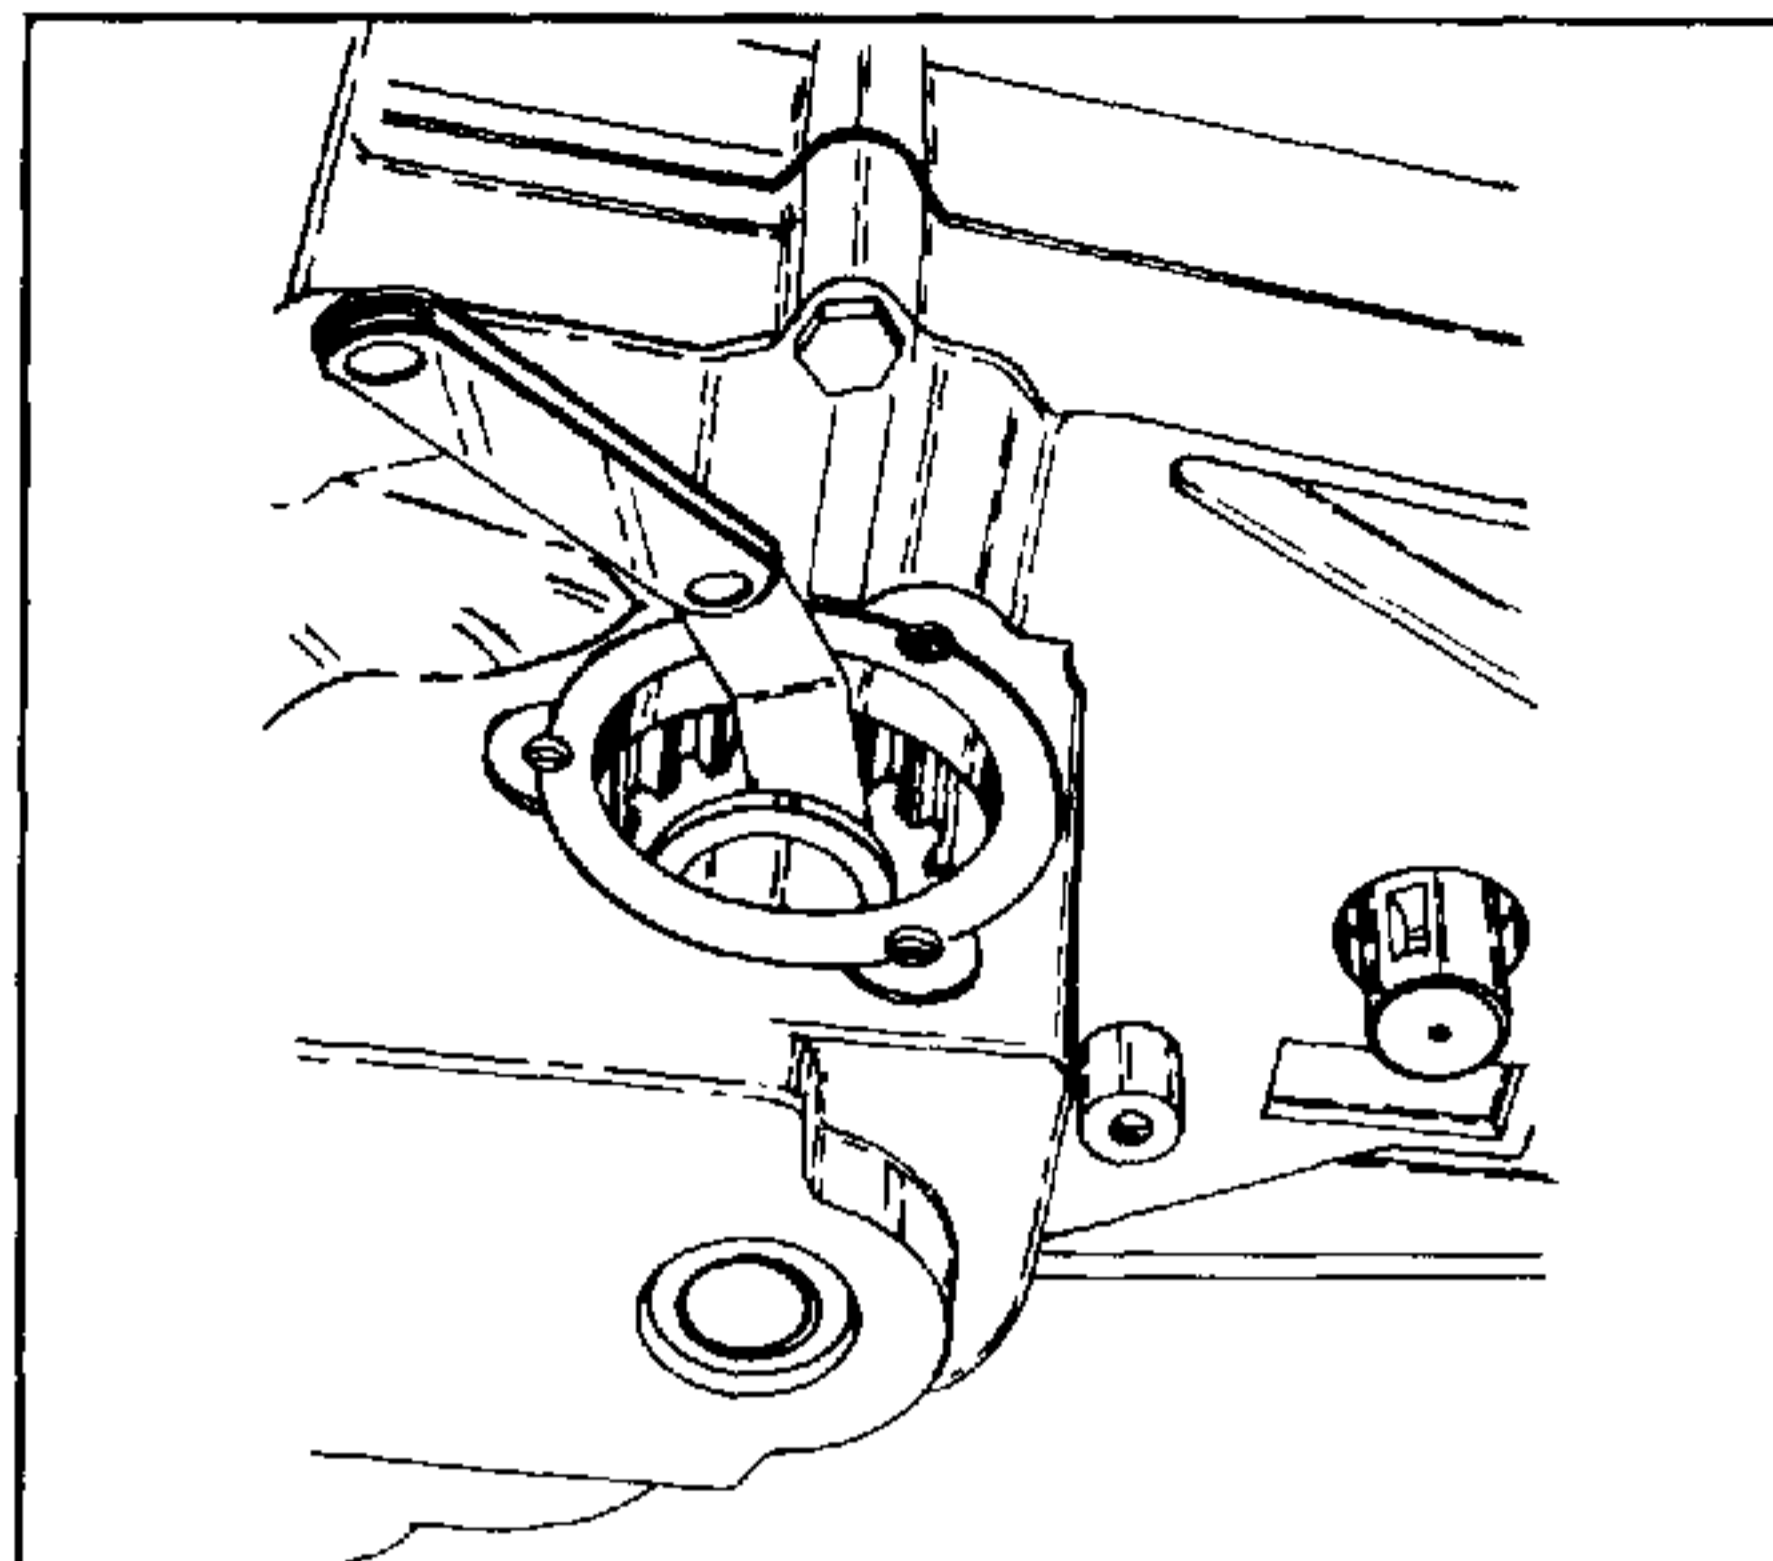

FIGURE 17.
8.41 Use a feeler gauge to check for .010 minimum clearance between thrust race and thrust bearing as shown in figure 17.